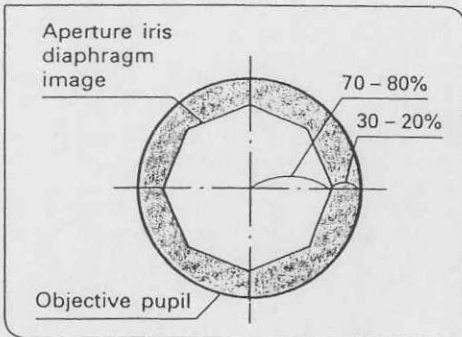

Fig. 54
Aperture Iris Diaphragm (Figs. 54, 55)
- Since the contrast of microscopic specimens is ordinarily low, setting the condenser aperture iris diaphragm to 70-80% of the N.A. of the objective in use is usually recommended. When necessary, adjust this ratio by removing the eyepiece and peering into the eyepiece sleeve to see the image shown in Fig. 54.